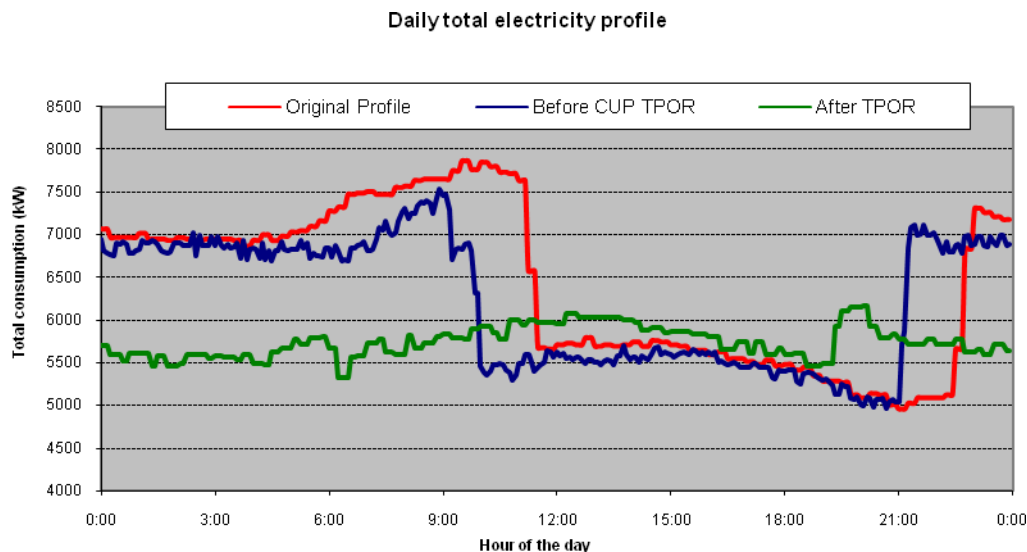
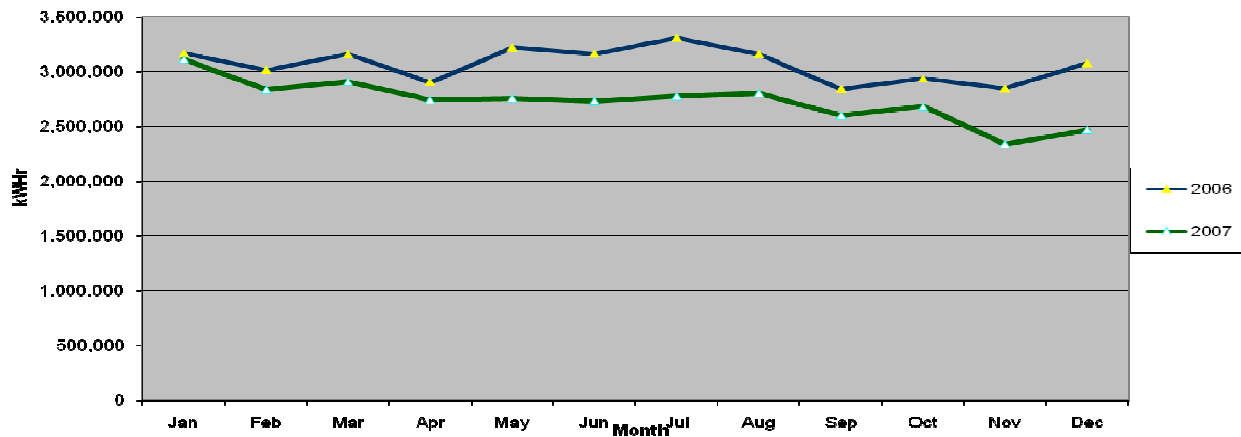

Figure 1. Daily total electricity profile for the corporate headquarters of a high tech firm
Figure 2. Monthly electricity usage comparison
primary and secondary setup. This process reduces primary and condensing pump power in a range of 40% to 85% and increases chiller efficiency by 5% to 15%; (2) optimal chiller sequencing programming to ensure the entire chiller plant is working at maximum efficiency; (3) optimal differential pressure reset to eliminate control valve hunting, minimize mechanical energy waste in pipes, maximize the pump efficiency, minimize/eliminate valve over pressurization, and prevent pump over-heating or over-loading; (4) optimal supply water temperature reset to ensure excellent humidity control and maximum chiller efficiency; (5) the 60-80% rule to ensure safe chiller system operation and minimal total cooling system (compressor, pumps, and cooling tower) energy cost. There were also a collection of measures for AHUs and thermal storage systems such as optimizing the charging and discharging sequences to achieve a constant load profile during the entire day. Upon completion of the implementation, the site had significantly increased comfort levels, a state of the art facility with significantly more automation and a peak demand reduction of 1.7MW (Figure 1). Additionally, their annual electricity consumption was reduced by 4.5 million kWh (Figure 2).